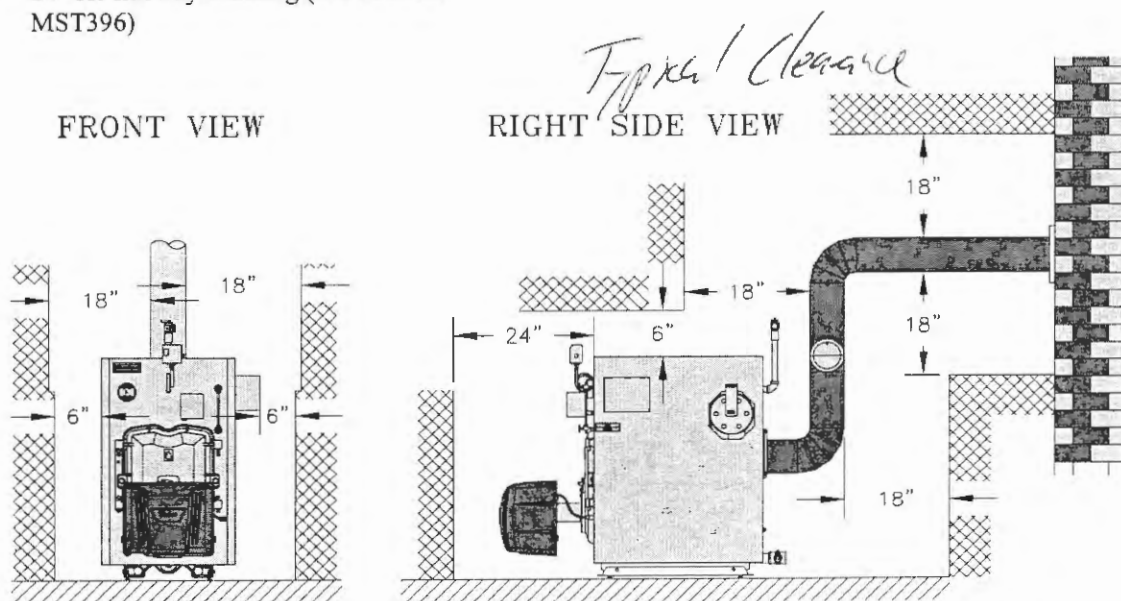

Figure 2: Minimum Installation Clearances To Combustible Materials (Inches)
- 12" minimum for rear smokebox cleaning (Note: This dimension will also be controlled by horizontal to vertical to horizontal smokepipe arrangement - See Figures 2 and 15.)
5. For minimum clearances to combustibles materials. See Figure 2.